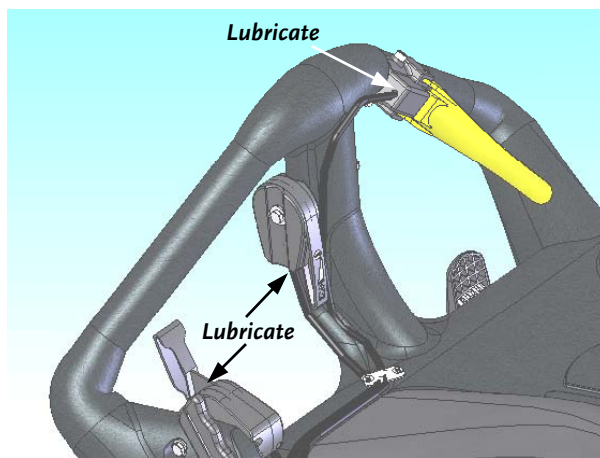

Figure 16
1. Lubricate the Throttle Control Cable, *Drive Clutch Cable and the *Gear Shift Cable (**Figure 16**) with FLUID FILM® or comparable lubricant. Spray the lubricant into the cable housing while working the cable back and forth a few times.